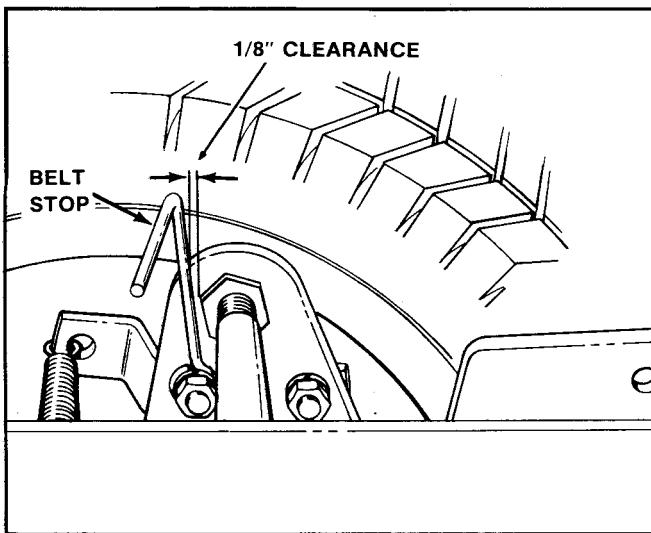

Figure 5
10. On hydrostatic drive units, install the belt stop to the inside rear of the left side plate by removing the nut and lockwasher from the rear capscrew holding on the hydrostatic control spring support (figure 5). Place the stop on the capscrew so that the leg of the stop is over the top of the cable. Replace the lockwasher and nut, making sure that there is at least $1/8$ inch clearance between the side of the belt stop and the adjusting nut on the hydrostatic control shaft to avoid interference. When the belt stop is properly positioned, hold it in place and tighten the nut on the capscrew.